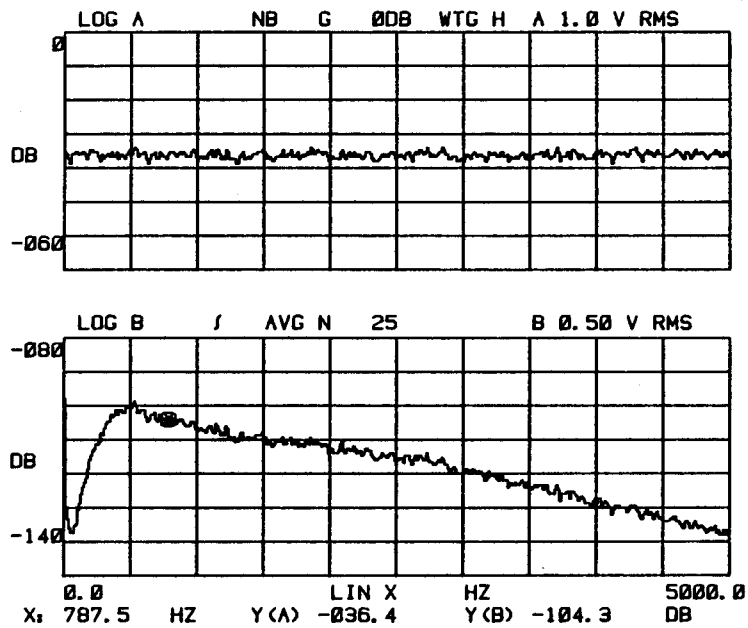

Figure 4-50. Display PRGM 1, Artificial Integration Menu Selection 2
- 2. Press START (When averaging is completed, compare the display with Figure 4-50)